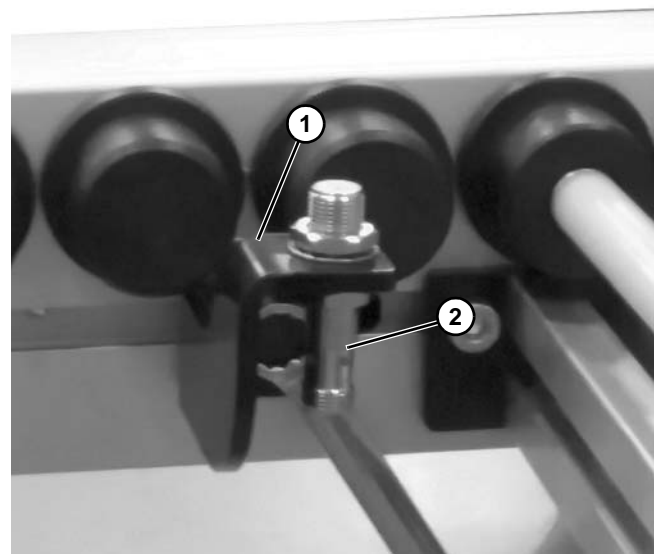

Figure 68
Optional bottom mount (**Figure 68, item 1**) sensor brackets can be used to mount a 12 mm barrel proximity sensor (**Figure 68, item 2**).